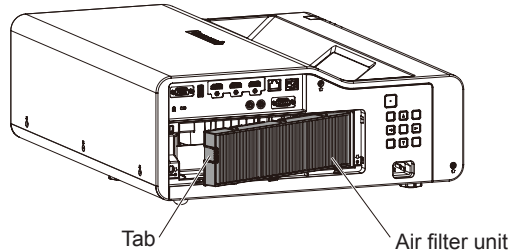

Fig. 1
1) Attach the air filter unit to the projector. (Fig. 1)